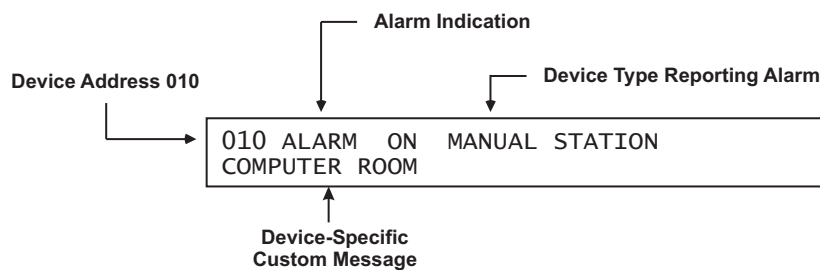
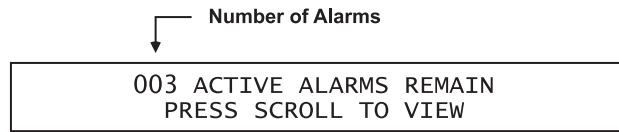

Figure 3-10. Typical Alarm Message Display
Figure 3-11. Typical Message After Manual Alarm Scroll Cycle
The active alarms and acknowledged alarm-initiating devices can then be manually displayed, in the format of Figure 3-10, in order of occurrence
using the <SCROLL> Key. A summary of the number of active alarm events will be displayed as shown in Figure 3-11 at the conclusion of each manual scroll cycle.
You may then manually scroll through the list of active and acknowledged alarm-initiating devices, by using the <SCROLL> Key, after the message in Figure 3-12 is displayed. A summary of the number of active alarm events will be displayed as shown in Figure 3-11 at the conclusion of each manual scroll cycle.
- The system will then resume normal latching-alarm-event annunciation. You may manually scroll through the list of active and acknowledged latching-alarm-initiating devices using the <SCROLL> Key if both latching and non-latching alarm reports have been received. They will be displayed using the format of Figure 3-10. A summary of the number of active latching alarm events will be displayed as shown in Figure 3-11 at the conclusion of each manual scroll cycle.